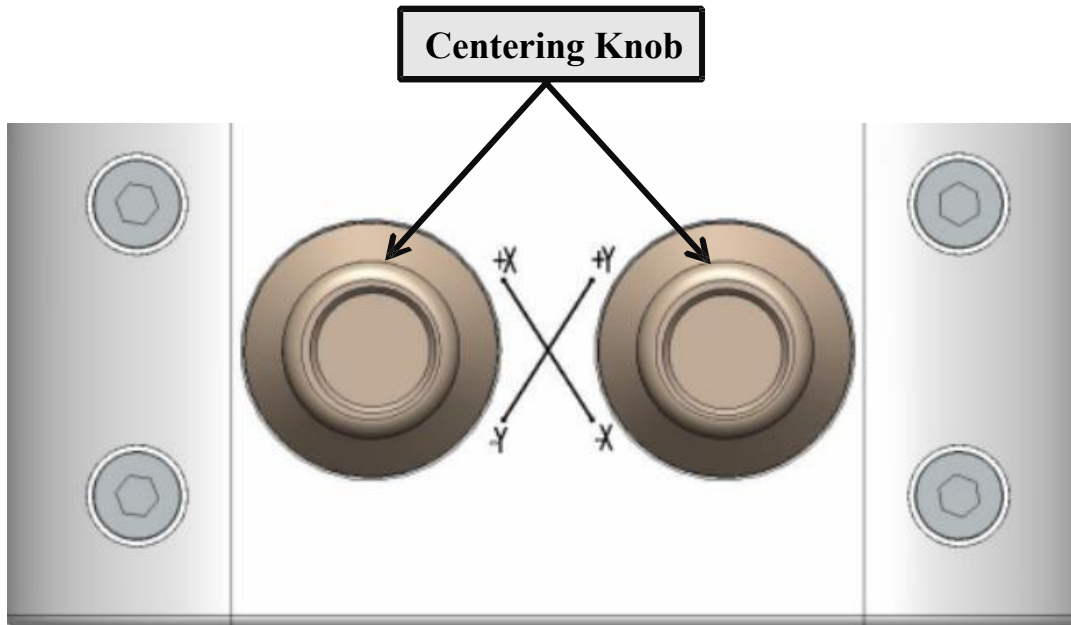

Figure 3.6
① To achieve good joint-cutting effect, the laser beam must be kept in the center of the nozzle. When it deviates from the center of the nozzle, it needs to be adjusted through the beam centering module, as shown in Figure 3.6 below.